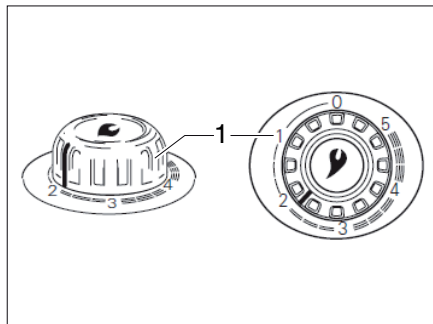

Fig. 108 Hot-air heater control knob
- Turn the control knob on the heater (Bild 108,1) to the required position and press down to its stop limit.
- Turn the control knob at the heater (Bild 108,1) to "0". The automatic ignition is switched off simultaneously.
- ▷ Further information can be obtained from the separate instruction manual "Truma S 3004 (P) / S 5004".